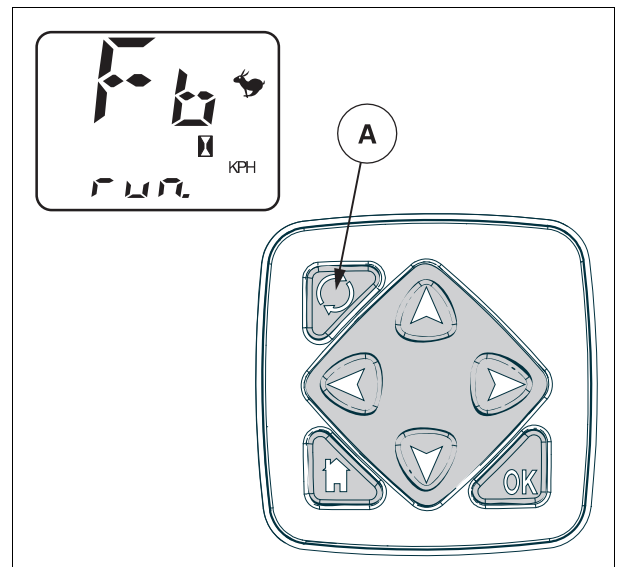

Fig. 43.
6. "run" should appear on the screen fig. 43
7. Press the display selector switch (A) when crossing the finish line of the course.
8. Press the display selector switch (A); the constant forward speed (theoretical) measured during calibration is displayed.
9. Press the display selector switch (A) again; the actual constant forward speed (radar) measured during calibration is displayed on tractors fitted with radar.
10. Press the display selector switch (A) one final time to return the instrument panel to normal operating mode.